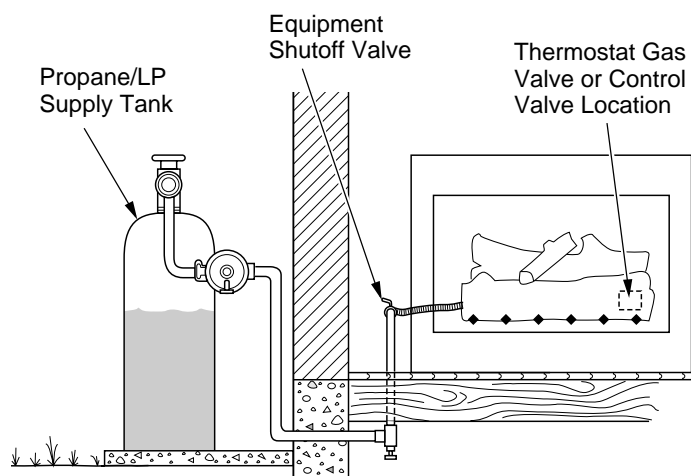

Figure 20 - Checking Gas Joints (propane/LP only)
3. Check all joints from gas meter to equipment shutoff valve for natural gas or propane/LP supply to equipment shutoff valve for propane/LP (see Figures 20 and 21, page 15). Apply non-corrosive leak detection fluid to all joints. Bubbles forming show a leak.
4. Check all joints from equipment shutoff valve to thermostat gas valve (Thermostat-Controlled Models), to control valve (Manually-Controlled Models), or to gas control (Remote-Ready Models)(see Figures 20 and 21). Apply noncorrosive leak detection fluid to all joints. Bubbles forming show a leak.